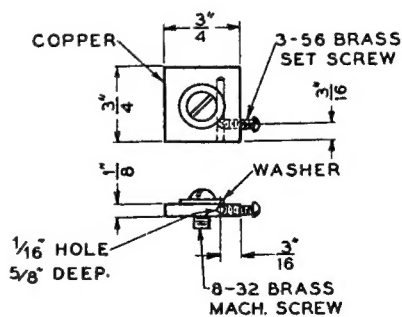

FIG. 3
**Mounting—**Medium four-pin thrust type base for use in a Western Electric 143B or similar socket for vertical mounting only. Filament terminals only connected in the base. Grid and plate terminals at top of bulb must have large cooling lugs if operated above 30 megacycles. A typical cooling lug is shown in Figure 3.
Care must be taken in connecting to the grid and plate terminals, as these terminals are not provided with caps because of high frequency considerations. Connections to these terminals must be sufficiently flexible to eliminate any strain on the glass. Also, the leads must not be made to support other apparatus such as coils or condensers. For frequencies below 30 megacycles, ordinary Fahnestock clips make satisfactory connectors. For frequencies higher than 30 megacycles, because of the high radio-frequency charging currents to the interelectrode capacitances, it is necessary that the connectors assist in cooling the lead-in wires. A connector such as shown in Fig. 3 is recom-